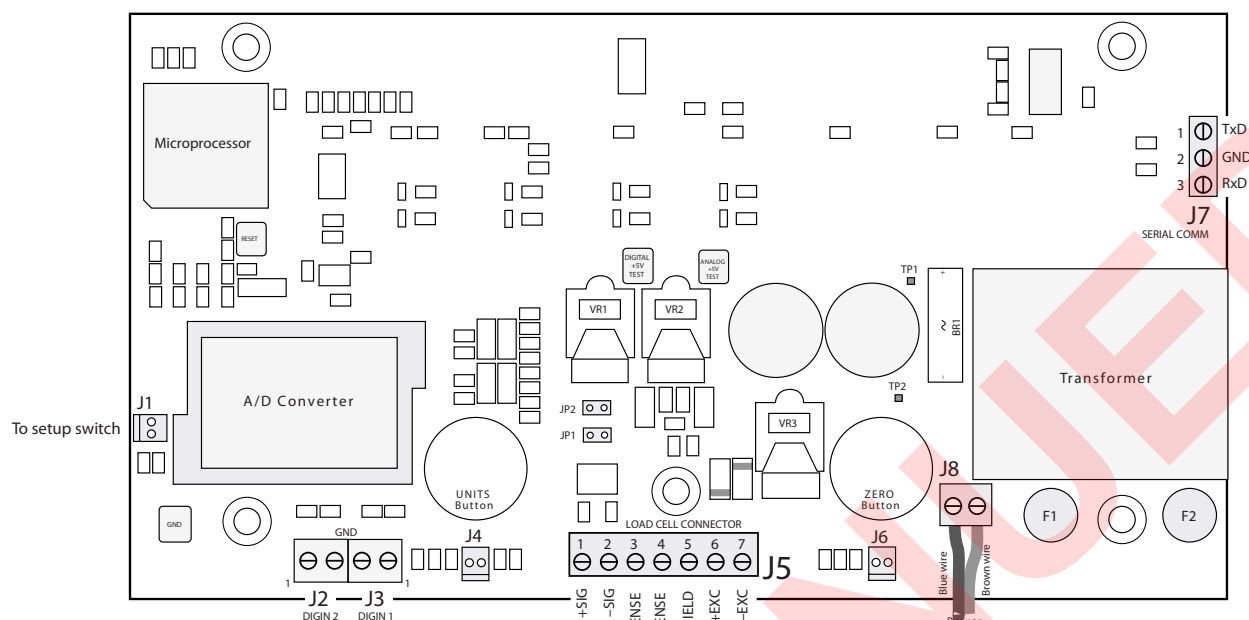

Figure 2-2. IQ plus 210 CPU and Power Supply Board
Wire the load cell cable from the load cell or junction box to connector J5 as shown in Table 2-2. If using 6-wire load cell cable (with sense wires), remove jumpers JP1 and JP2 (see Figure 2-2). For 4-wire installation, leave jumpers JP1 and JP2 on.
The load cell compensation jumper (above the ZERO button location on the CPU board; see Figure 2-2) must be set for the type of load cell connected to the indicator:
- Remove connections to J5 (load cell cable), J7 (serial communications), J2 and J3 (digital inputs), J4 and J6 (piezo button inputs), and J1 (setup switch). Remove blue and brown power input wires at J8. See Figure 2-2 on page 11 for connector locations.